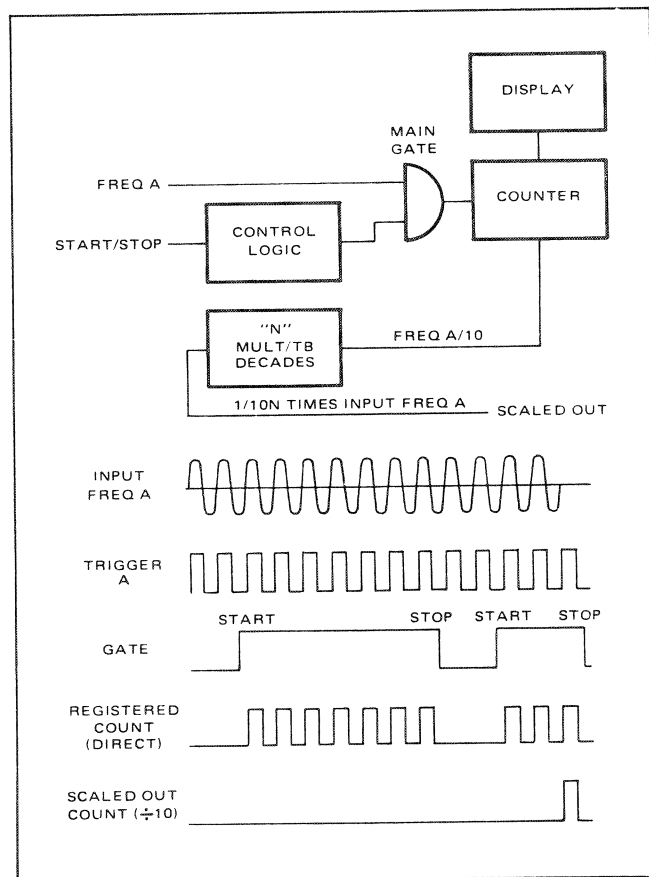

Figure 4.7 - Totalize Mode
4.26 In Totalize mode, the main gate is controlled by the manual START/STOP switch on the front panel of the instrument or external START/STOP commands (figure 4.7).